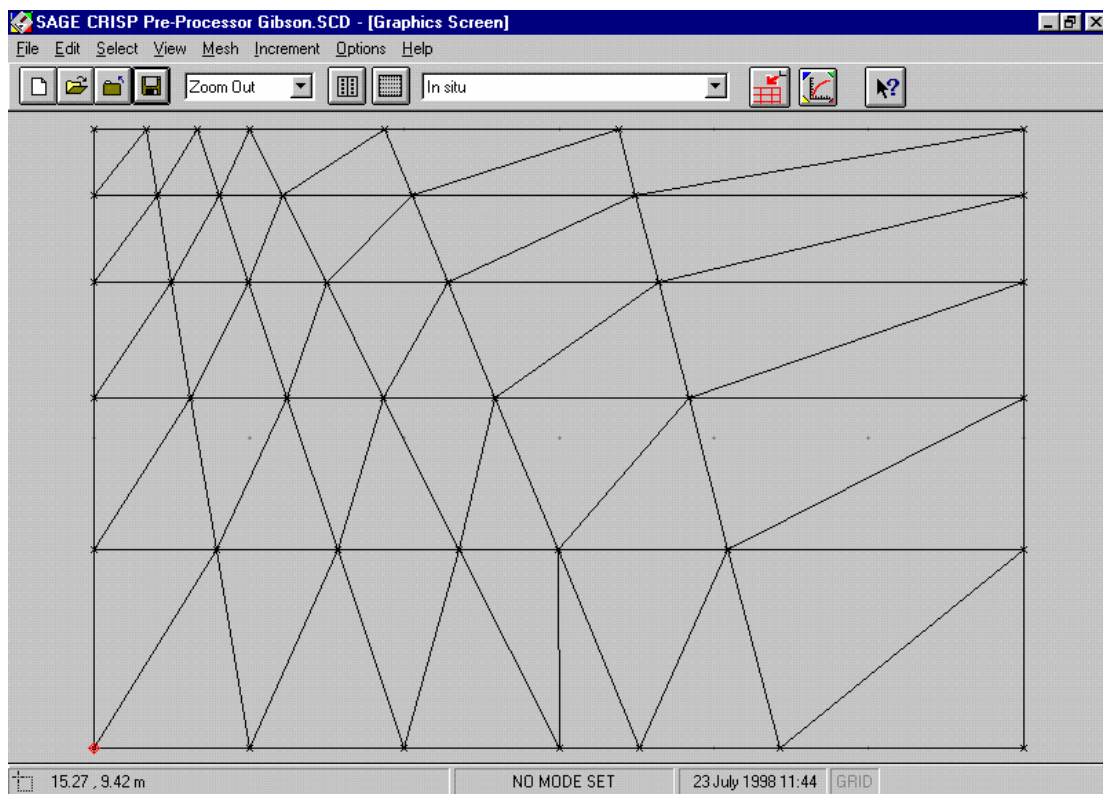

Figure 4-16: Automatically Generated Finite Element Mesh
Step 2 Provided you have completed the above stages correctly, the finite element mesh will be displayed as shown in Figure 4-16. The menu bar will now allow you access to the additional options available in Finite Element Mesh mode.